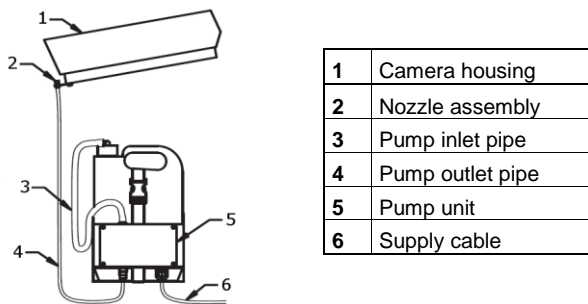

Fig. 2 Key to parts
3. Mount the washer container bracket to a suitable surface. The type of screws will depend upon the mounting surface material. The position of the container should be in accordance with Fig. 2.